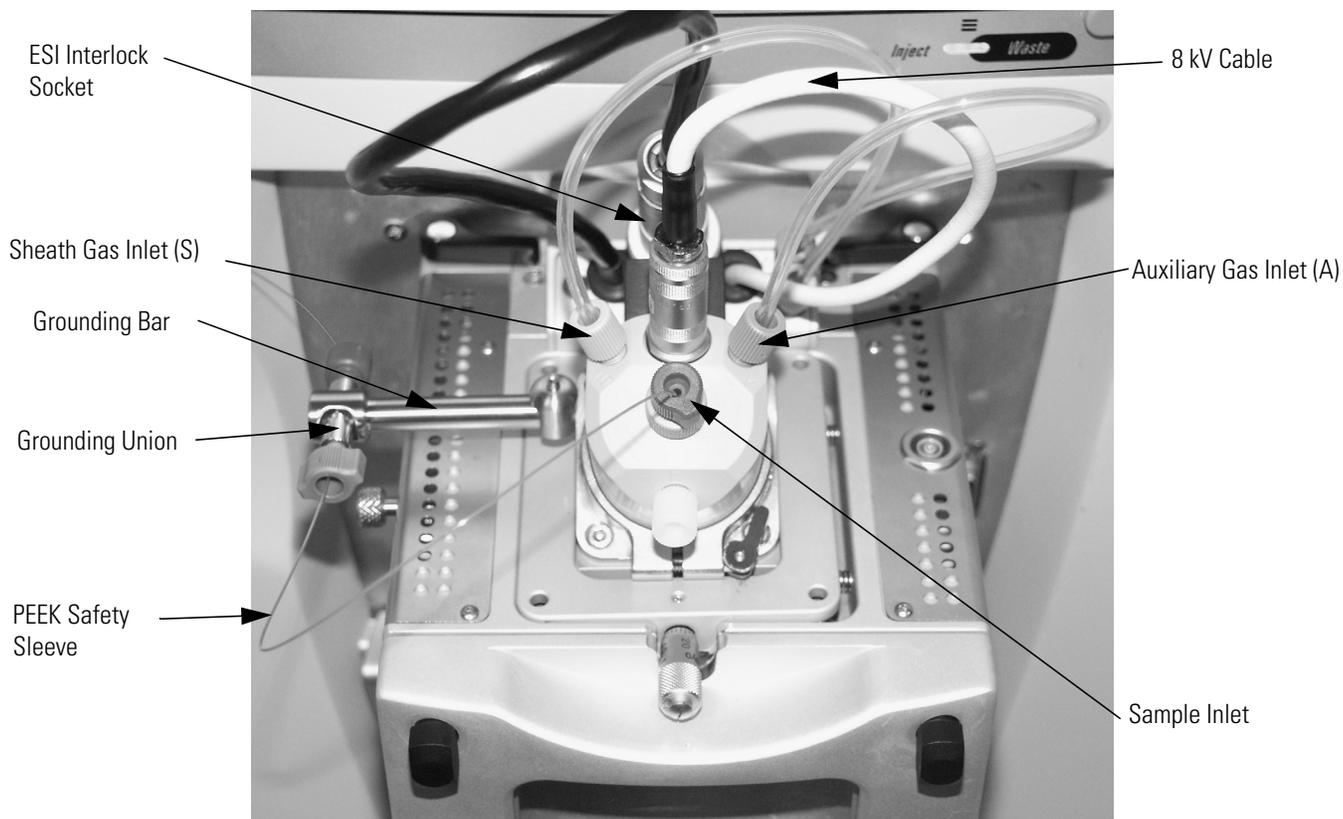

Figure 15. Ion Max ion source housing with ESI probe installed
8. Insert the stainless steel ZDV fitting (grounding union) into the grounding bar on the ion source housing. See Figure 15.
9. Connect the sheath gas fitting (blue) to the sheath gas inlet (S) on the probe. (See Figure 15.)
10. Connect the auxiliary gas fitting (green) to the auxiliary gas inlet (A) on the probe. (See Figure 15.)